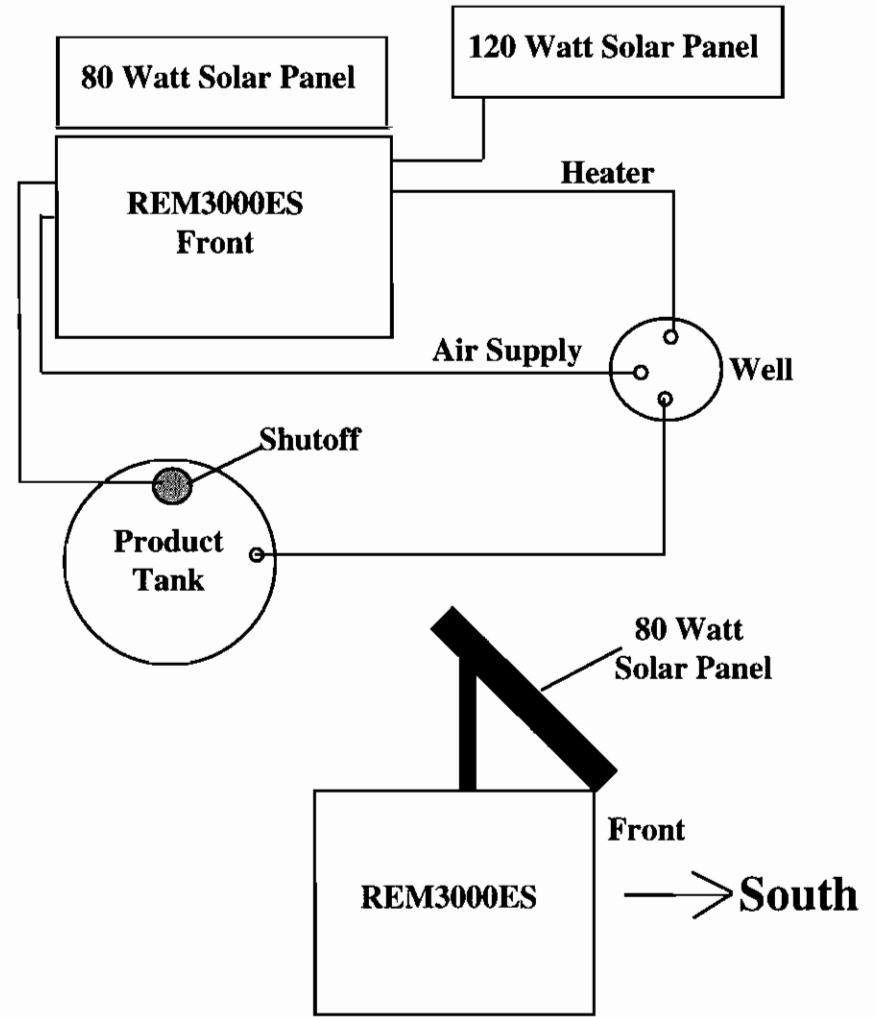

Figure 2
STEP 1. Place the REM3000ES near the well and have the front of the box facing due SOUTH (Figure 2). Reposition the solar panel to its upright position by unbolting the two side hinge arms at each end of the solar panel and reattching these arms to the top of the box. Place the REM3000ES as close to the well as possible. Place the holding tank within 15 feet of control box. **CAUTION:** The controller inside the control box is NOT intrinsically safe. Do not operate the REM3000ES in a CLASS I area.
STEP 2. Install holding tank shutoff assembly into holding tank (a 2" standard pipe inlet will be required in the holding tank). The level of product in the holding tank can be set by raising or lowering the high level shutoff switch attached to the rod. Plug the high level shutoff switch cable connector into the left end of the REM3000ES (Figure 2).